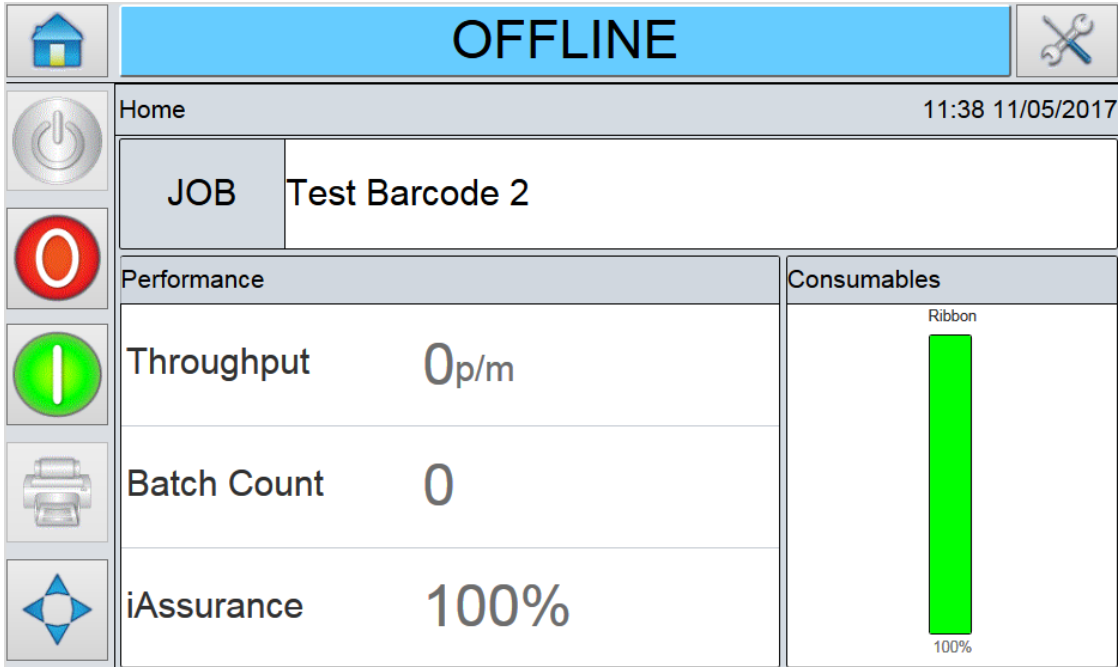

Figure 4-2: CLARiTY Home Screen in the Offline State
Figure 4-2 displays the CLARiTY Home screen in the OFFLINE state .
1. Ensure that the printer is in the OFFLINE state (Refer Figure 4-2 on page 4-2).